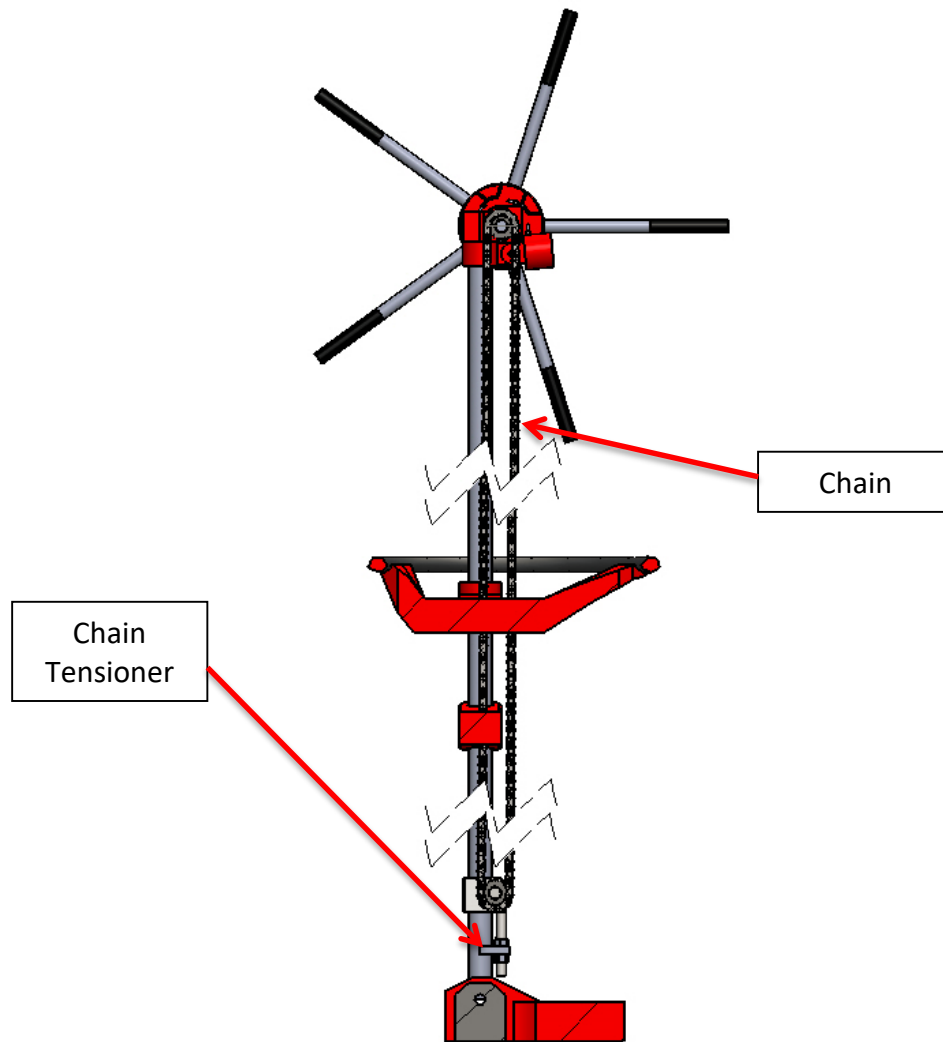

Fig. 12. Section view of chain path and location of tensioner.
- 10.2.2.5 Route the chains through the sprockets and join using the included master links (Fig. 12). Tension and equalize the chain as needed. NOTE: Be careful to keep the power-head resting on the base of the rig throughout this process to prevent damage to the slide rails or base.